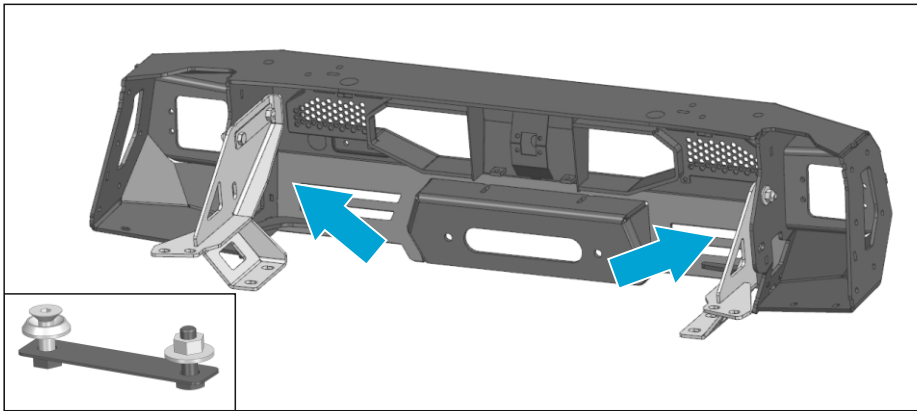
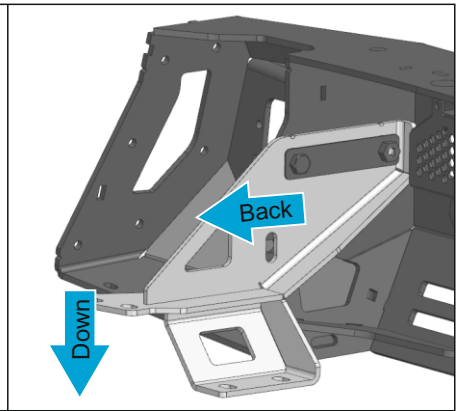

Fig.49
Fig.50
46. Install the frame bracket (item 27, 28) to the bumper body (item 2) using M10 insert nut, M10 screw, M10 countersunk washers, M10 penny washers, M10 nuts (items D, E3, I3, G, O) (Fig. 49). Slide the brackets back and down as shown in Fig. 50. ***Tighten the hardware.**